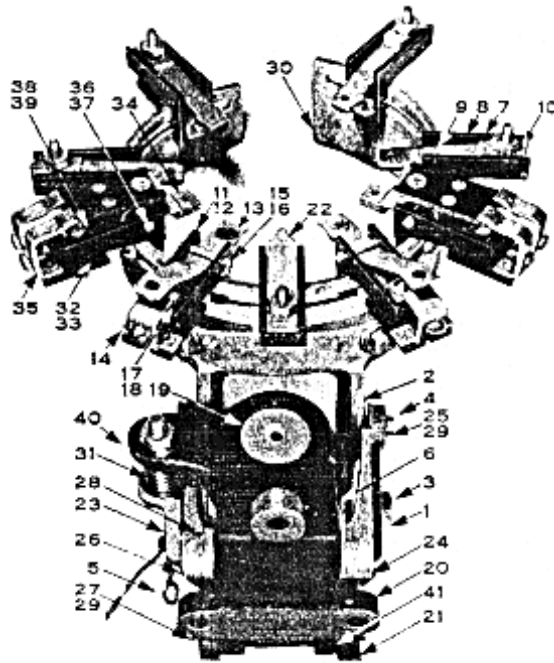

FIG. 9
PARTS FOR TYPE 6851A LEVELING SWITCH - FIG. 9
N.B. It should be understood that the arrangement of the Contacts shown in Fig. 9, is purely illustrative. In actual practice the number and arrangement of the various parts depend on many things, such as Car Speed, Type of Control etc.